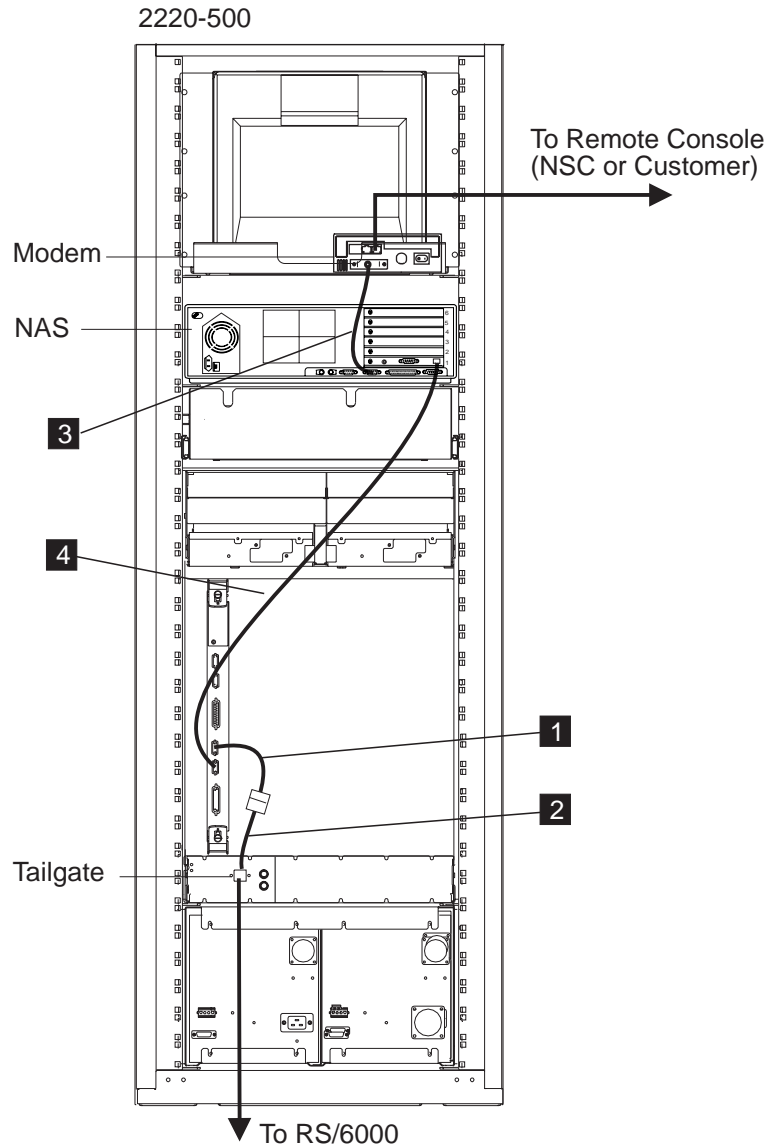

Figure 3-13. Example of NAS (Type 7585) to an APC Type A
1. \_\_\_\_ Refer to Figure 3-13 on page 3-16, remove cable **1** (PN 80G0781) plugged between the APC connector 4 (plugged in the 2220-500) and connector J1 of the tailgate. Store this cable in the service drawer.